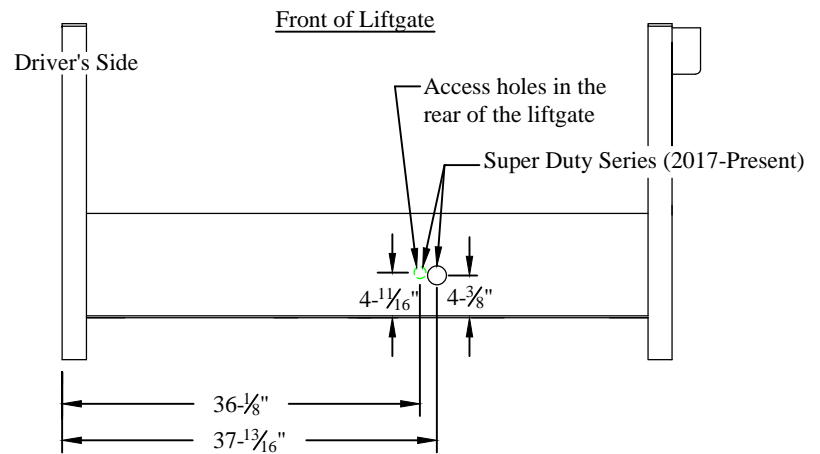

Figure 12: Spare tire access.
2. **Remove** the black plastic plug for your application (Figure 12).